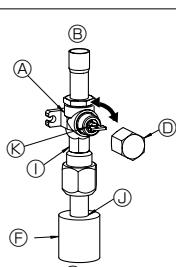
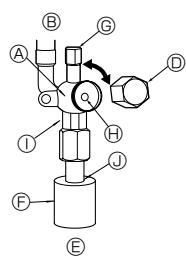

Fig. 4-5
Fig. 4-6
- (1) Gas side of A24-A42 (Fig. 4-5)
- ① Remove the cap, pull the handle toward you and rotate 1/4 turn in a counter-clockwise direction to open.
- ② Make sure that the stop valve is open completely, push in the handle and rotate the cap back to its original position.
- (2) Liquid side of A24-A42 and Gas/Liquid side of A12, A18 (Fig. 4-6)
- ① Remove the cap and turn the valve rod counterclockwise as far as it will go with the use of a 4 mm hexagonal wrench. Stop turning when it hits the stopper. (ø6.35, 1/4 inch: Approximately 4.5 revolutions) (ø9.52, 3/8 inch: Approximately 10 revolutions)